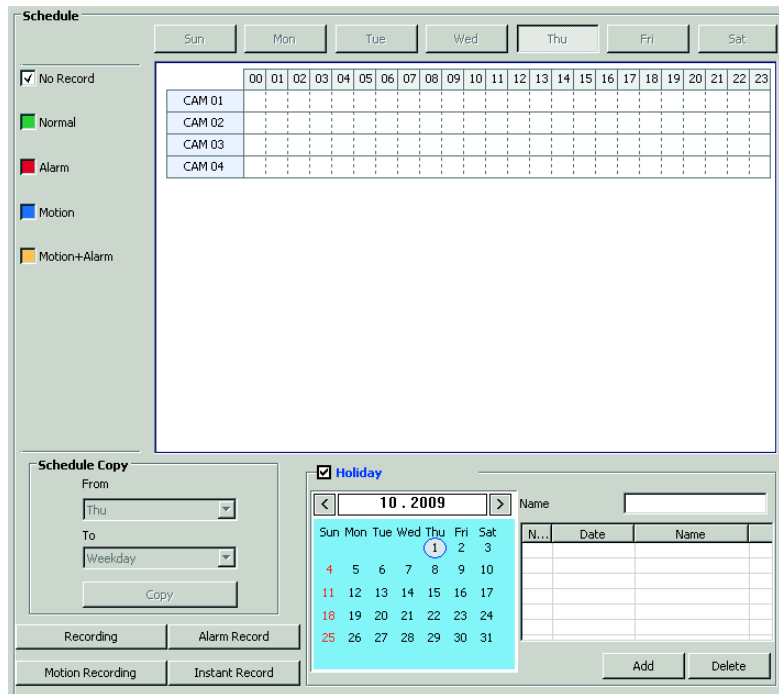

Figure 75. Holiday Schedule
3. In the Holiday section, select the Holiday check box. The Holiday schedule appears (refer to Figure 75 on page 84).